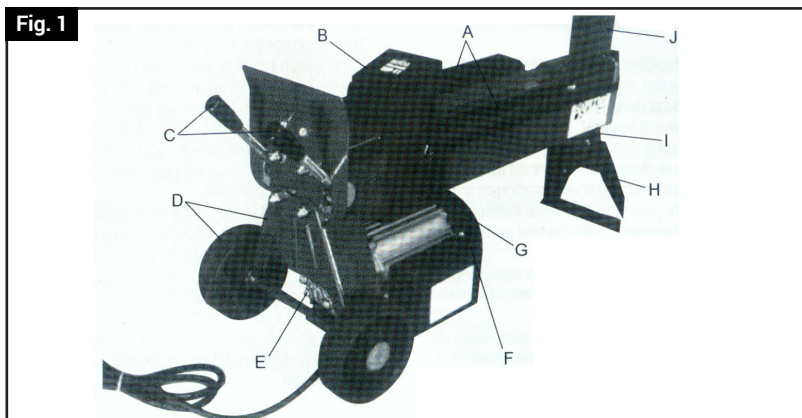

Figure 1: List of major components
Check the components based on the following list in Figure 1.
6. **Place Log on the Splitter.** Put a log lengthwise on the Main Body of the splitter (I in Figure 1). It should be flat on the Splitter cradled between the Log Guiding Plates (A in Figure 1). Do not split a log at an angle. Make sure that one end of the log is squarely in contact with the Wedge (J in Figure 1) and the other end with the Log Pusher (B in Figure 1).
7. **Start Splitting Logs** – Press down on the Electric Motor Start Switch (F in Figure 1) with one hand. The motor will start to spin. Wait a few seconds until the motor spins fast enough to create the necessary pressure in the Hydraulic pump. When there is enough pressure, depress the two Operating Handles with your two hands (C in Figure 1). This will move the Log Pusher (B in Figure 1) in the direction of the log and compress the log against the Wedge (J in Figure 1). This motion will gradually split the log. As soon as the log is split, SLOWLY release the Operating Handles (C in Figure 1). This will make the Log Pusher (B in Figure 1) retract to its original position. Do not release the Operating Handle in a sudden or jerking movement.
1. Check that the Log Pusher (B in Figure 1) is fully retracted to its original position.